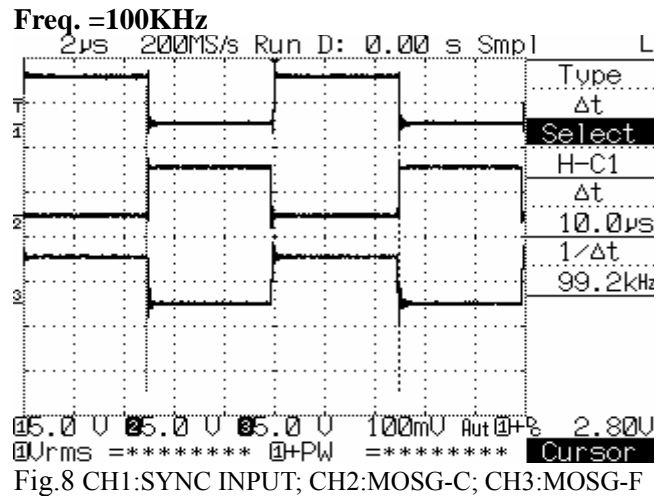
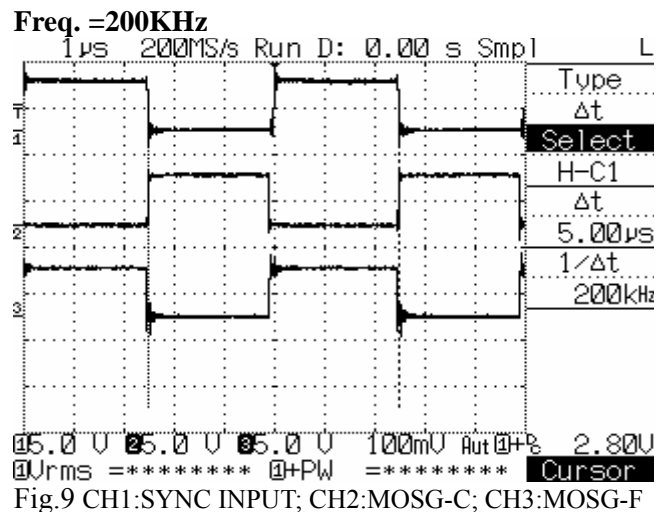
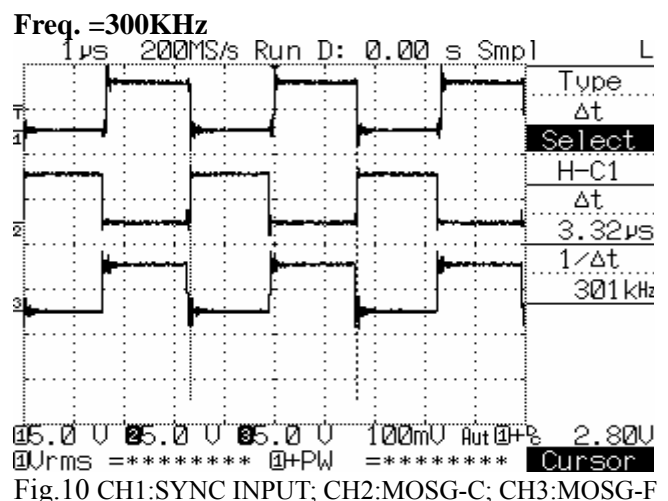

Fig.8 CH1:SYNC INPUT; CH2:MOSG-C; CH3:MOSG-F
Fig.9 CH1:SYNC INPUT; CH2:MOSG-C; CH3:MOSG-F
Fig.10 CH1:SYNC INPUT; CH2:MOSG-C; CH3:MOSG-F
- (1) R4 is removed & function generator is used to force square waveform on pin8. Adjust Sync threshold high voltage>3.9V and sync threshold low voltage<0.9V.
- (2) +5V is forced on pin7 (VDD pin).
- (3) At the drain of each MOSFET, connect 100ohm to pull up +5V(VDD)
- (4) Fig.8 : f= 100Khz ; Fig.9 : f= 200Khz ; Fig.10 : f= 300Khz